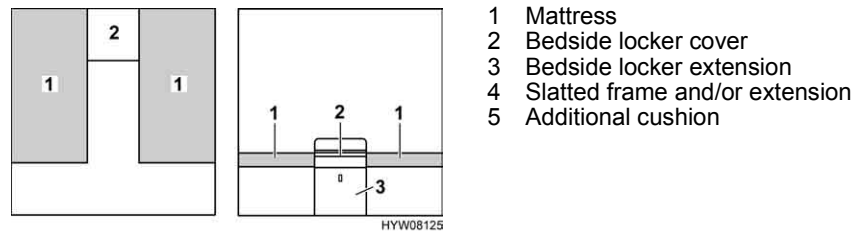

Fig. 136 Prior to conversion
- Remove the bedside locker cover (Fig. 136,2) and put it to one side.